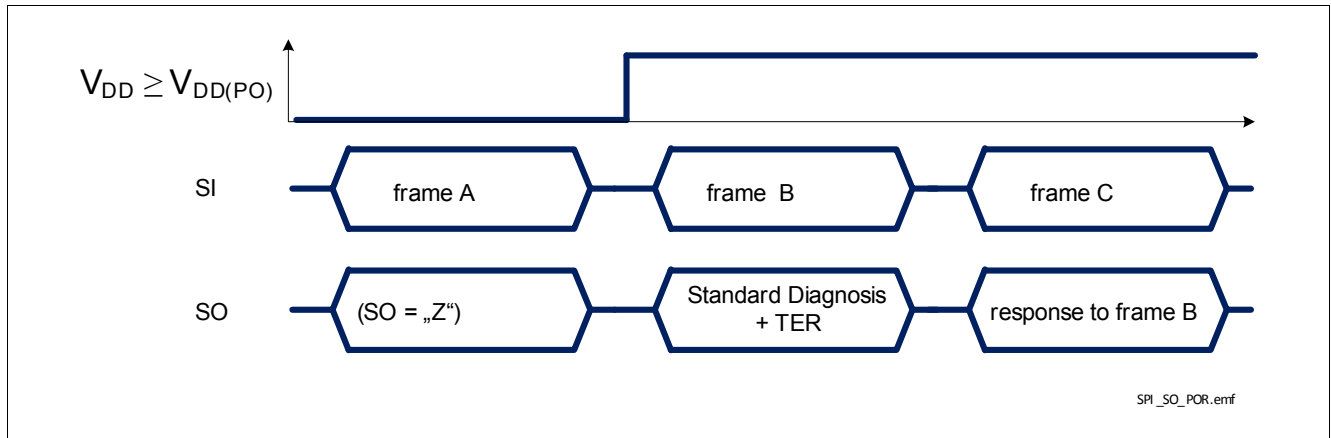

Figure 9-9 BTS54220-LBA response after coming out of Power-On reset at V_{DD}
- when BTS54220-LBA logic supply comes out of Power-On reset condition, as shown in Figure 9-9